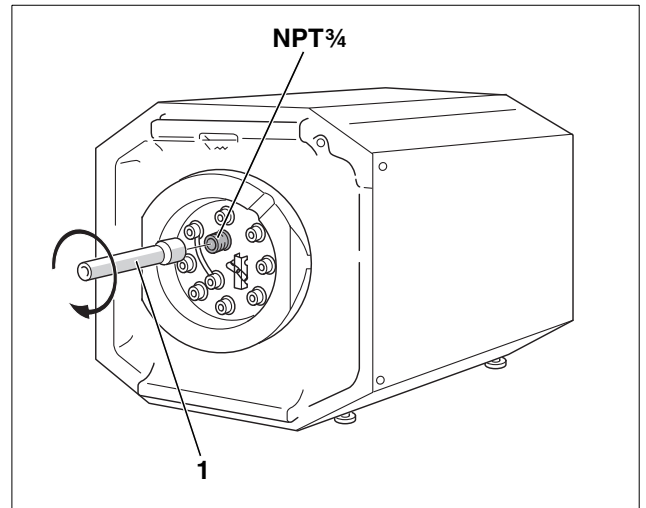

Fig. 6 Assembly of front carrying pipe stub
- Screw a 3/4" coupling on a pipe end (Fig. 6, Item. 1).